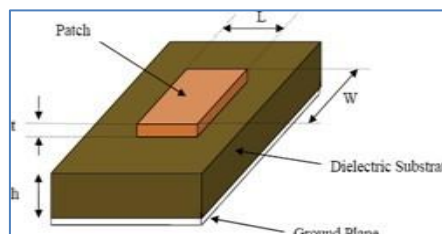

Figure 11.1: Microstrip patch antenna
1. Simulate the radiation pattern of the microstrip patch antenna as shown in the figure 11.1 in the azimuth plane ($\phi=0$) and the elevation plane ($\theta=90$). Measure the beamwidth and directivity of the antenna.